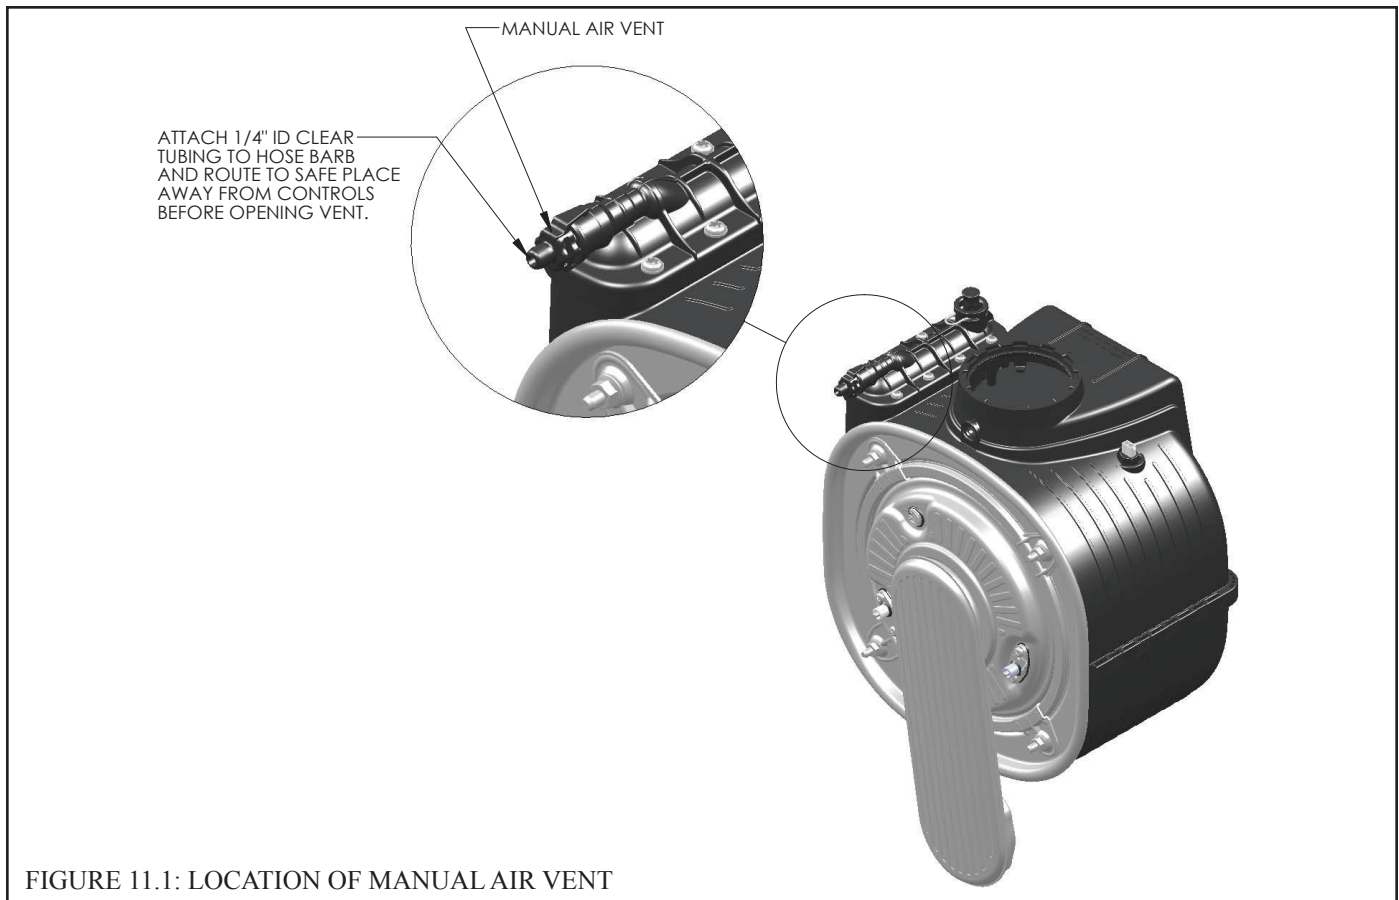

FIGURE 11.1: LOCATION OF MANUAL AIR VENT
- 6) Bleed air from the heat exchanger using the manual air vent in the top left side of the heat exchanger (Figure 11.1). To do this install a piece of 1/4" ID clear tubing over the hose barb and route the tubing to a location where water will not damage controls or nearby construction. Turn vent counter-clockwise and allow heat exchanger to vent until a steady stream of water is observed. Close vent and remove hose.